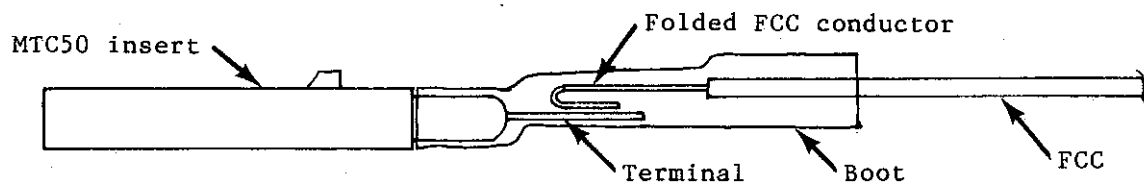

Figure 5-4. FCC Inserted Into Boot of MTC Insert
1. Insert the FCC (which must have folded conductors) into the boot of the MTC50 insert at one end of the harness (Figure 5-4).